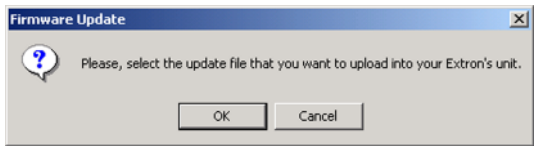

Figure 4-7 — Select update file box
3. Click on Upload Firmware File. A dialog box asking you to select the update file is displayed (see Figure 4-7).